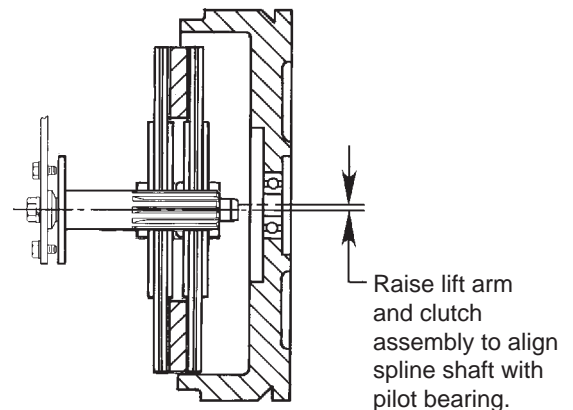

Figure 6
6. Operate the jack to raise the upper lift arm to the correct height to engage the front disc spline. Roll the clutch handler forward to insert the spline shaft. Turn the large center cap screw clockwise to rotate the spline shaft for correct engagement of the clutch disc. **Note: The front clutch disc in the flywheel is slightly lower than the center line of the pilot bearing. It may be necessary to raise the upper lift arm to correctly align the spline shaft with the pilot bearing. See Figure 6.**